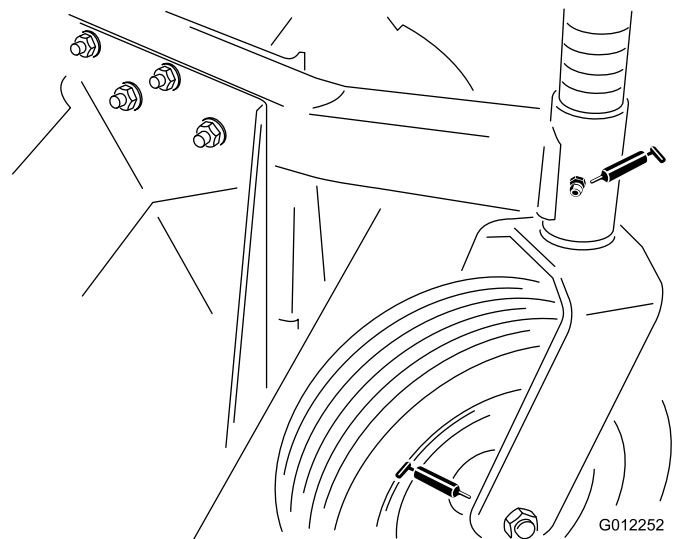
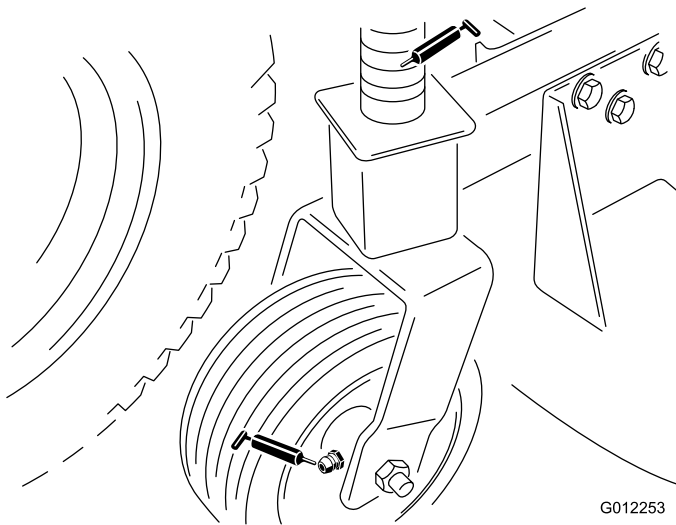

Figure 15
Figure 16
- Front castor spindle bushings (Figure 15)
- Castor wheel bearings (Figure 15) & Figure 16)
Also remove the rear castor spindle shaft from the castor arm and coat the hex shaft with No. 2 general purpose lithium base grease or molybdenum base grease every 50 hours (Figure 16).